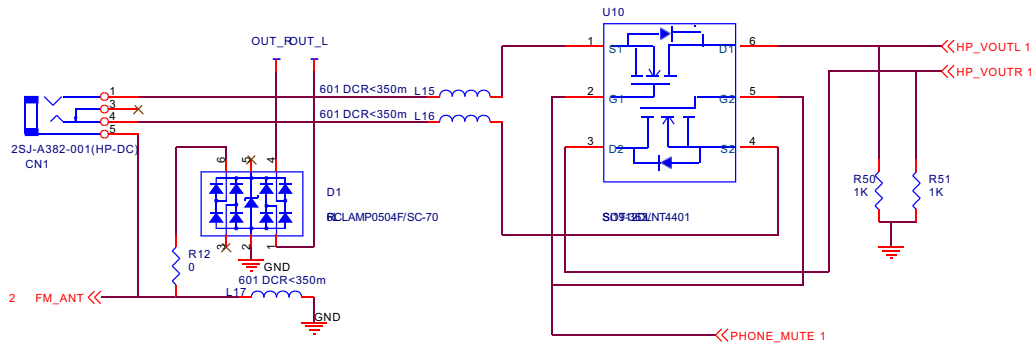

Figure 3.2.6.1 Headphone jack circuit schematic diagram
1. Headphone jack circuit is shown in the figure 3.2.6.1: